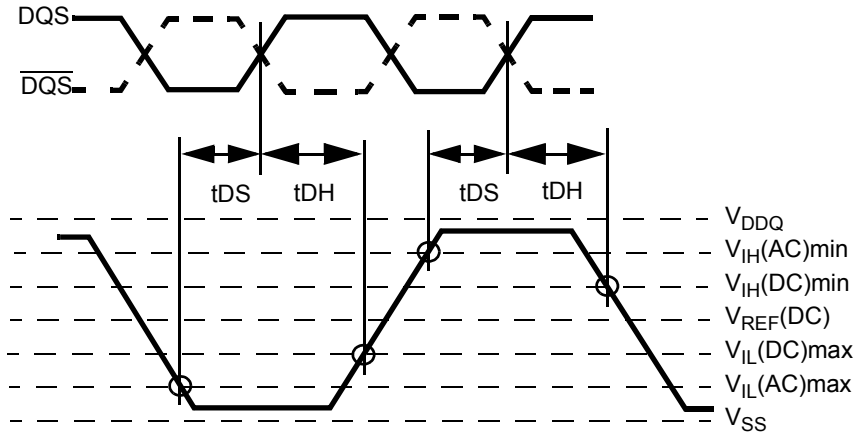

Figure 20. Differential input waveform timing - t_{DS} and t_{DH}
20. Input waveform timing t_{DS} with differential data strobe enabled $MR[\text{bit}10]=0$, is referenced from the input signal crossing at the $V_{IH}(\text{AC})$ level to the differential data strobe crosspoint for a rising signal, and from the input signal crossing at the $V_{IL}(\text{AC})$ level to the differential data strobe crosspoint for a falling signal applied to the device under test. DQS, \overline{DQS} signals must be monotonic between $V_{IL}(\text{DC})_{\text{max}}$ and $V_{IH}(\text{DC})_{\text{min}}$. See Figure 20.
21. Input waveform timing t_{DH} with differential data strobe enabled $MR[\text{bit}10]=0$, is referenced from the differential data strobe crosspoint to the input signal crossing at the $V_{IH}(\text{DC})$ level for a falling signal and from the differential data strobe crosspoint to the input signal crossing at the $V_{IL}(\text{DC})$ level for a rising signal applied to the device under test. DQS, \overline{DQS} signals must be monotonic between $V_{IL}(\text{DC})_{\text{max}}$ and $V_{IH}(\text{DC})_{\text{min}}$. See Figure 20.